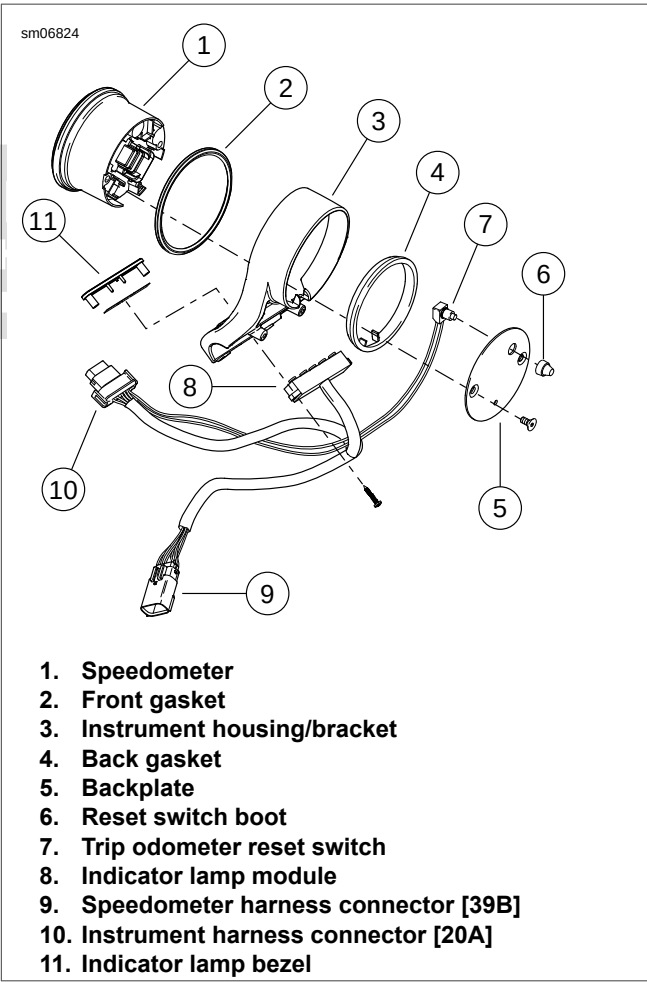

Figure 6-4. Speedometer Components: XL 883L/N/R, XL 1200V, XL 1200CP/CB Mini-Ape Handlebar
- **XL 883L/N/R and XL 1200V and XL 1200CP/CB Models with Mini Ape Handlebar:** See Figure 6-4.